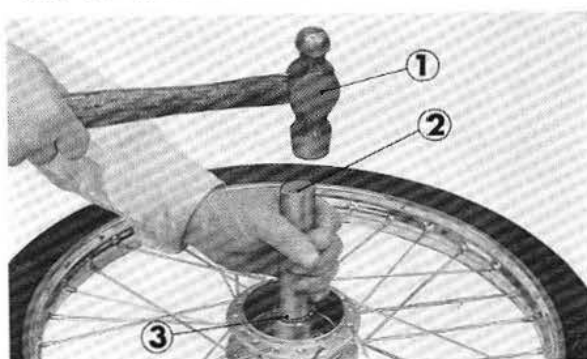

Fig. 4-8 ① Ball peen hammer ② Bearing installer ③ 6201 ball bearing
- Wash off old grease from the wheel hub and bearing, and pack both bearing and hub with new grease. Assemble the distance collar, 6201 ball bearing and oil seal. (Fig. 4-8)